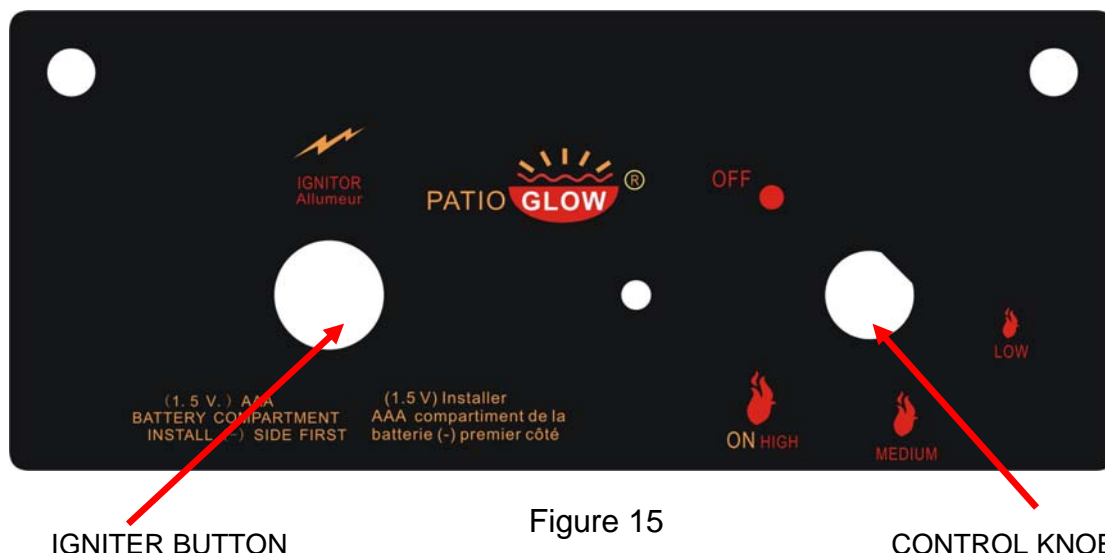

Figure 15
1. Make sure the control knob is in the "OFF" position. See Figure 15 Open the tank valve all the way.